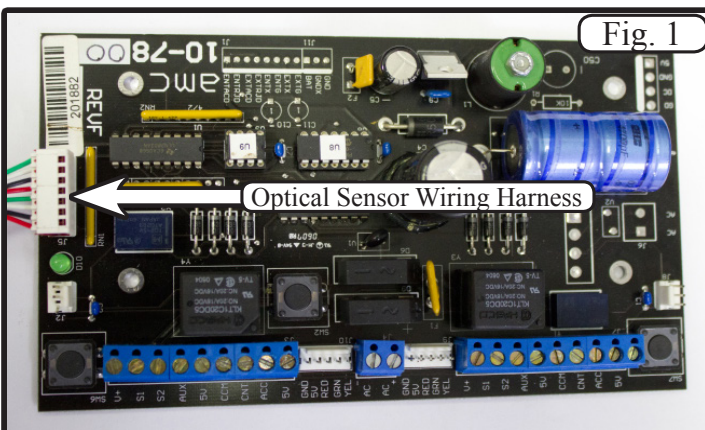

Fig. 1
- 3) Unplug the optical sensor wiring harness from the turnstile control board [Fig. 1 & 2].
6) Plug the optical sensor wiring harness back into turnstile control board [Fig. 1 & 2].